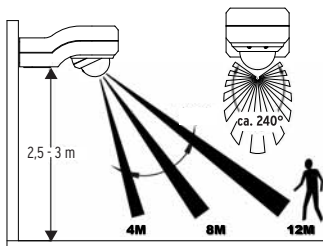

Fig. 1A
- The motion detector should, ideally, be located 2.5 to 3 metres above the area to be monitored (see Fig.. 1A).